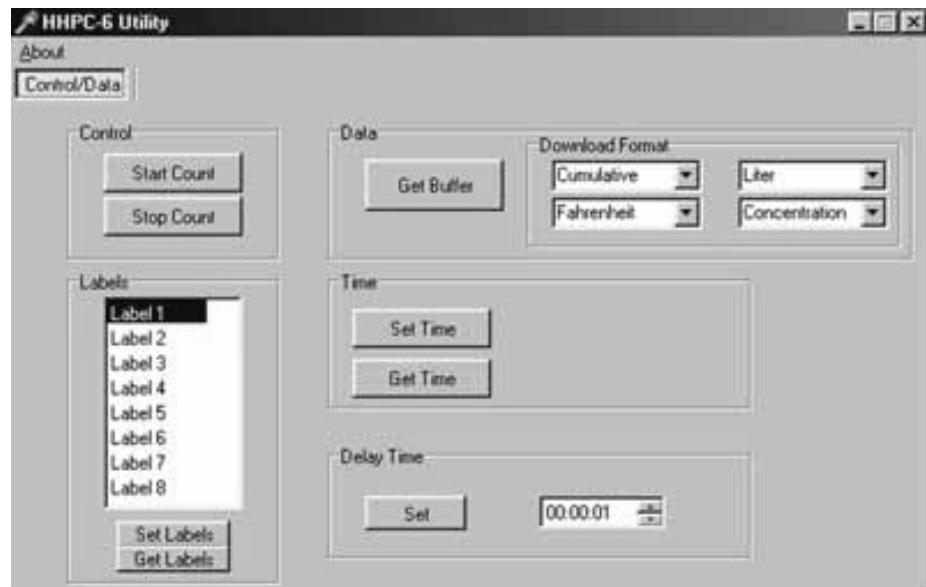

Figure 6 MET ONE HHPC–6 Utility window
5. To open the Utility software, double-click the HHPC6 Utility.exe file. The MET ONE HHPC–6 Utility window is displayed (refer to Figure 6).